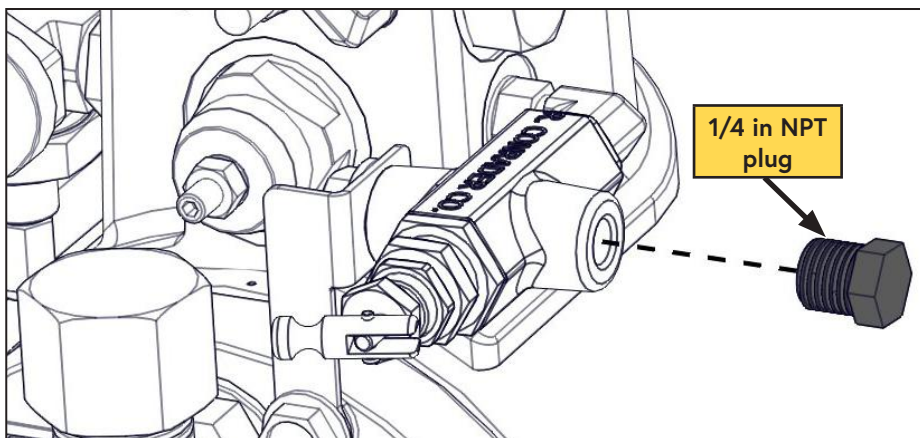

Figure 45 — Plug unloader valve
- ☐ Remove the push-to-connect fitting from the unloader valve and plug the valve using a 1/4 in NPT plug (Figure 45).
- ☐ Remove the 1/4 in NPT plug from the unloader valve and install the push-to-connect fitting (Figure 45).